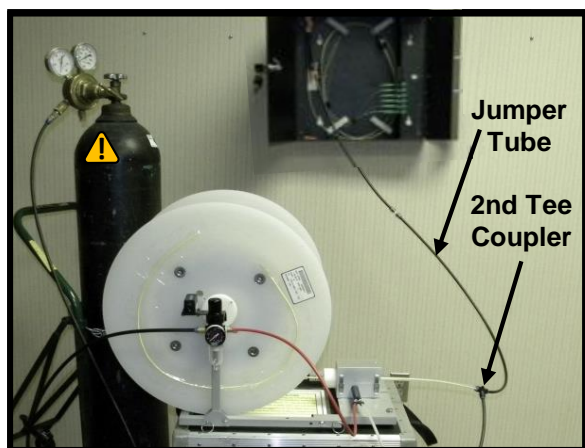

Figure 18
8.11 To span the distance between the Blowing Head and the entry point, connect an appropriate length of “Installer Provided” 8mm jumper tube and a Tube Coupler between the Second Tee Coupler and the tube/tube cable scheduled to receive the Fiber Bundle. The jumper tube length must be determined on site. **See Fig. 18.**